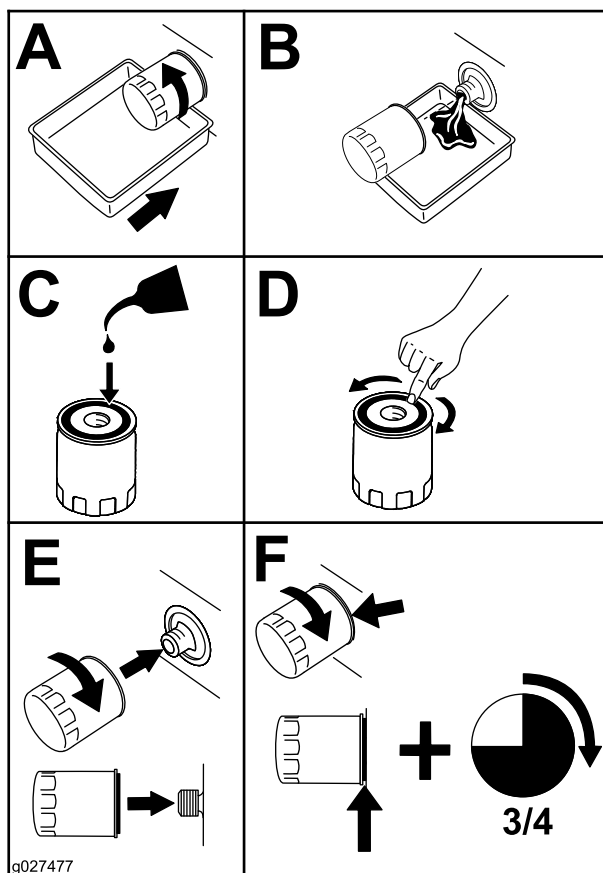

Figure 66
2. Change the engine-oil filter (Figure 66).